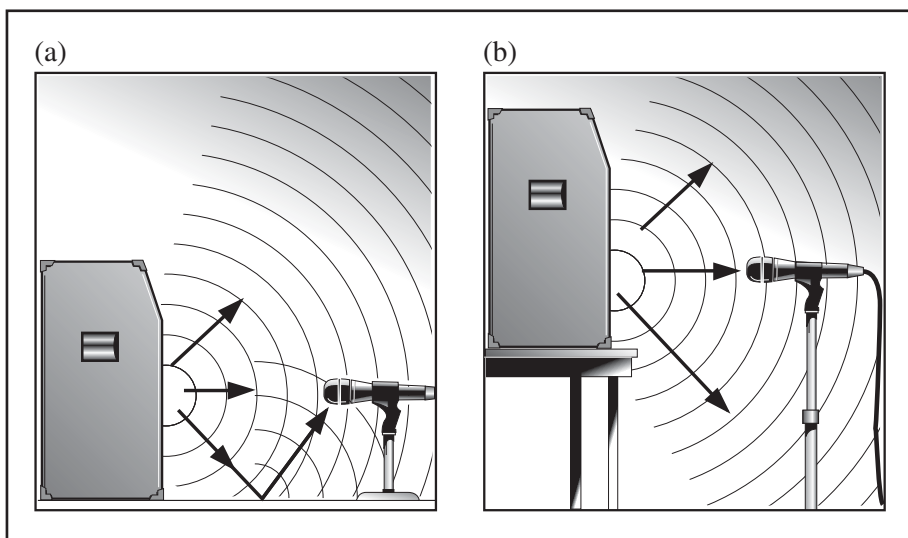

FIGURE 5.1
- **Rising high.** Figure 5.1 (a) shows that when the microphone is placed too close to the floor, errant reflections are introduced. Figure 5.1 (b) shows an amplifier raised off the floor to keep reflections from bouncing